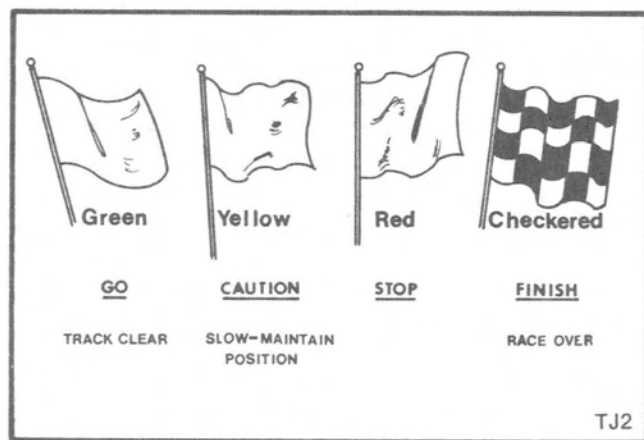

Figure 2
9. Snowmobile racing is normally controlled by flags. Always obey the flag and stay alert. Figure 2